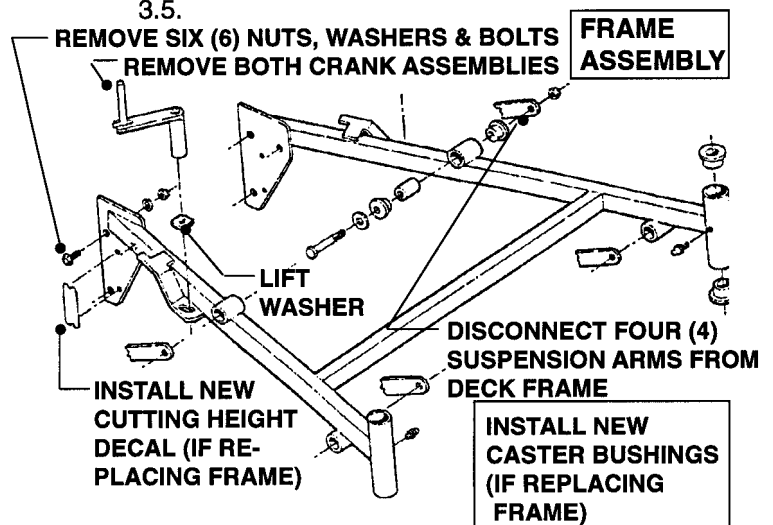

FIGURE 3.5
- C. Separate the deck from the Power Unit by removing the six (6) nuts, washers and bolts. See Figure 3.5.
- E. Disconnect the four (4) suspension arms from the deck frame. Remove both bushings and sleeve from each connection to the frame. Refer to Figure 3.5.
- Loosely attach the four (4) deck suspension arms to the deck frame using the sleeves, bushings and mounting hardware previously removed. Refer to Figure 3.5.